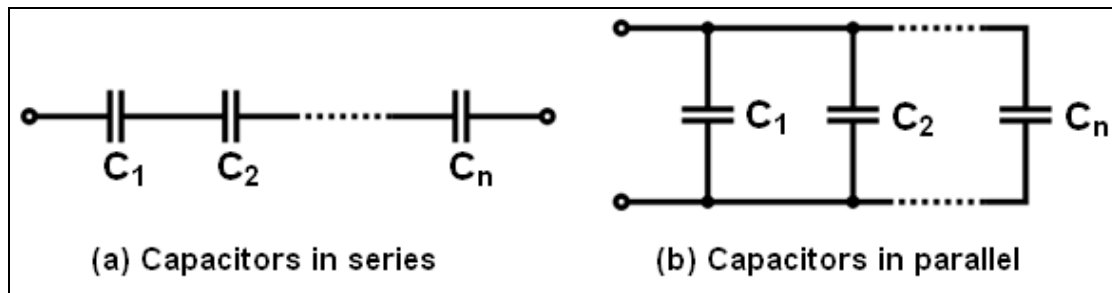

Fig. 2.2-12 Capacitors in Series and Parallel
Combined capacitance (C) of capacitors connected in series and parallel (Fig. 2.2-12).